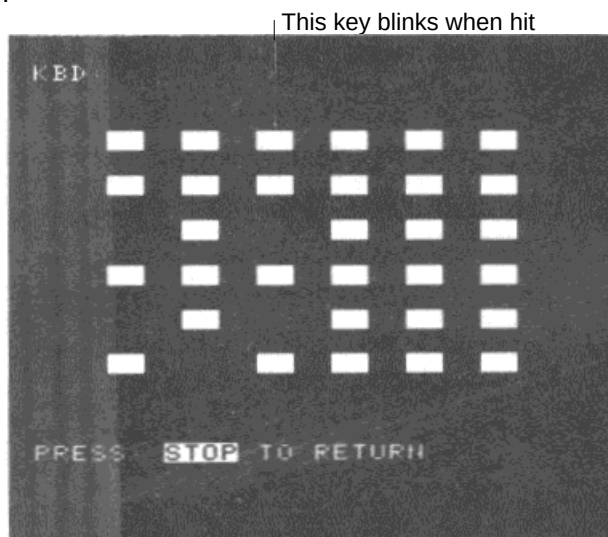

Figure 5-36. 338 Keyboard test display.
2. When an error message appears, press the START key. The Diagnostics menu will be displayed on the screen. Press 0 to run the KBD test. Refer to Figure 5-36.